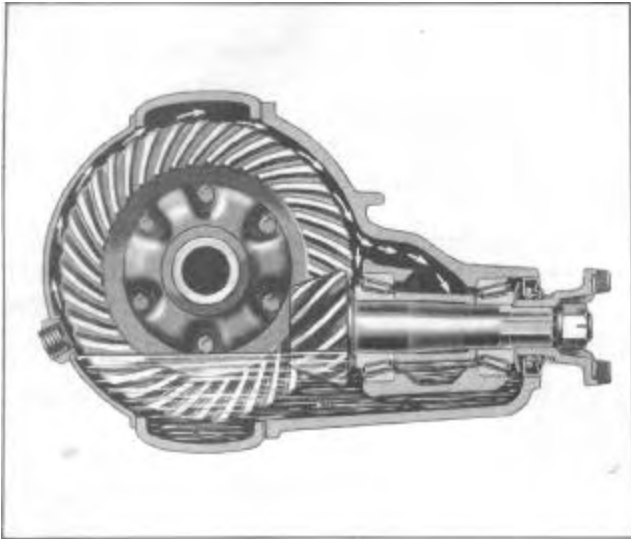

FIGURE 34
11. Fill axle to proper level (bottom of filler plug, see Figure 34) with S.A.E. 90 Multi- Purpose lubricant, through filler hole and replacer filler plug.